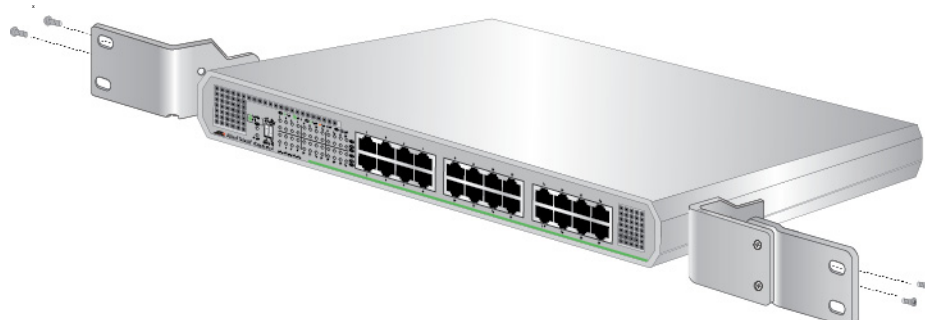

Figure 28. Attaching the Brackets to the Switch
3. Attach the brackets to the switch with the M3x6mm screws using a Phillips-head screwdriver. See Figure 28.